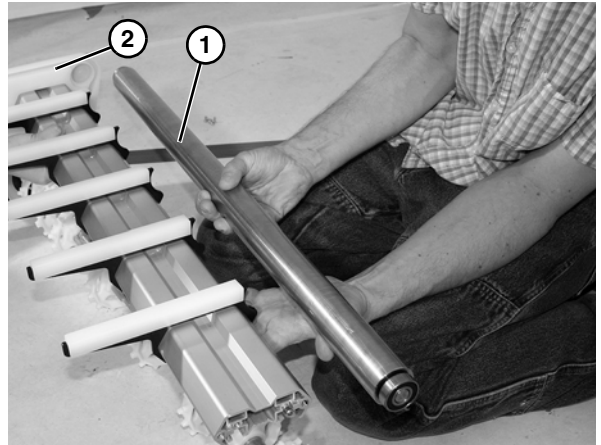

Figure 56
13. Remove shaft assembly (Figure 56, item 1) from end plate (Figure 56, item 2).